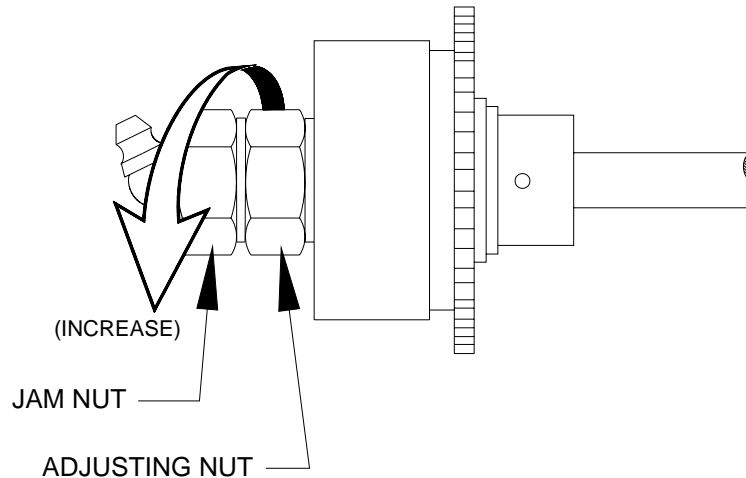

FIGURE 4-18: TORQUE LIMITING CLUTCH ADJUSTMENT
- 1) Refer to **Figure 4-18**. Do the following, if clutch adjustment is necessary: